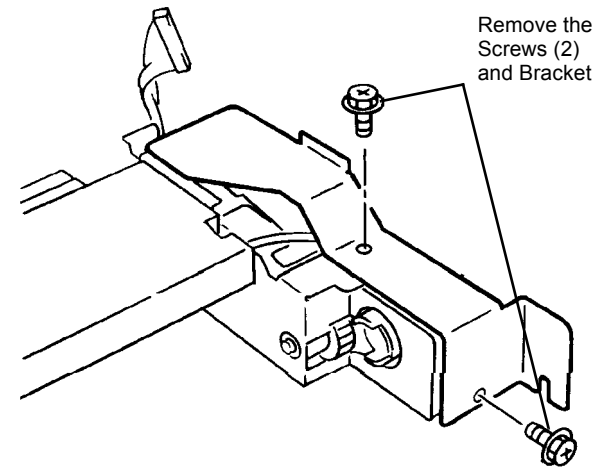

Figure 2 Removing Tray 3 Feeder from Bracket
6. Remove the Tray 3 Feeder from mounting bracket (Figure 2).